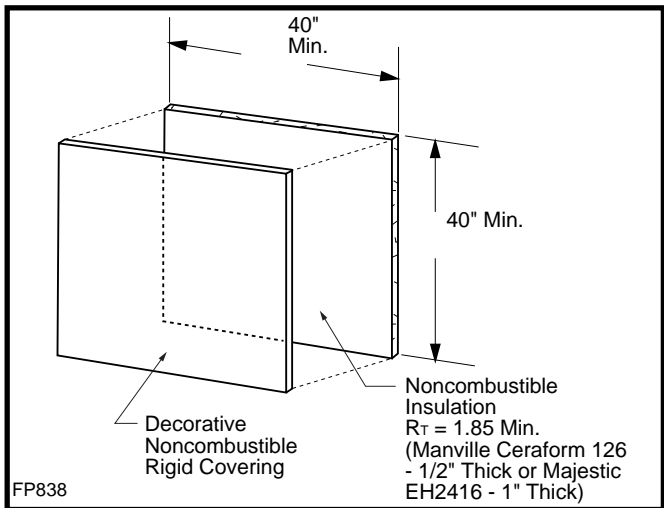
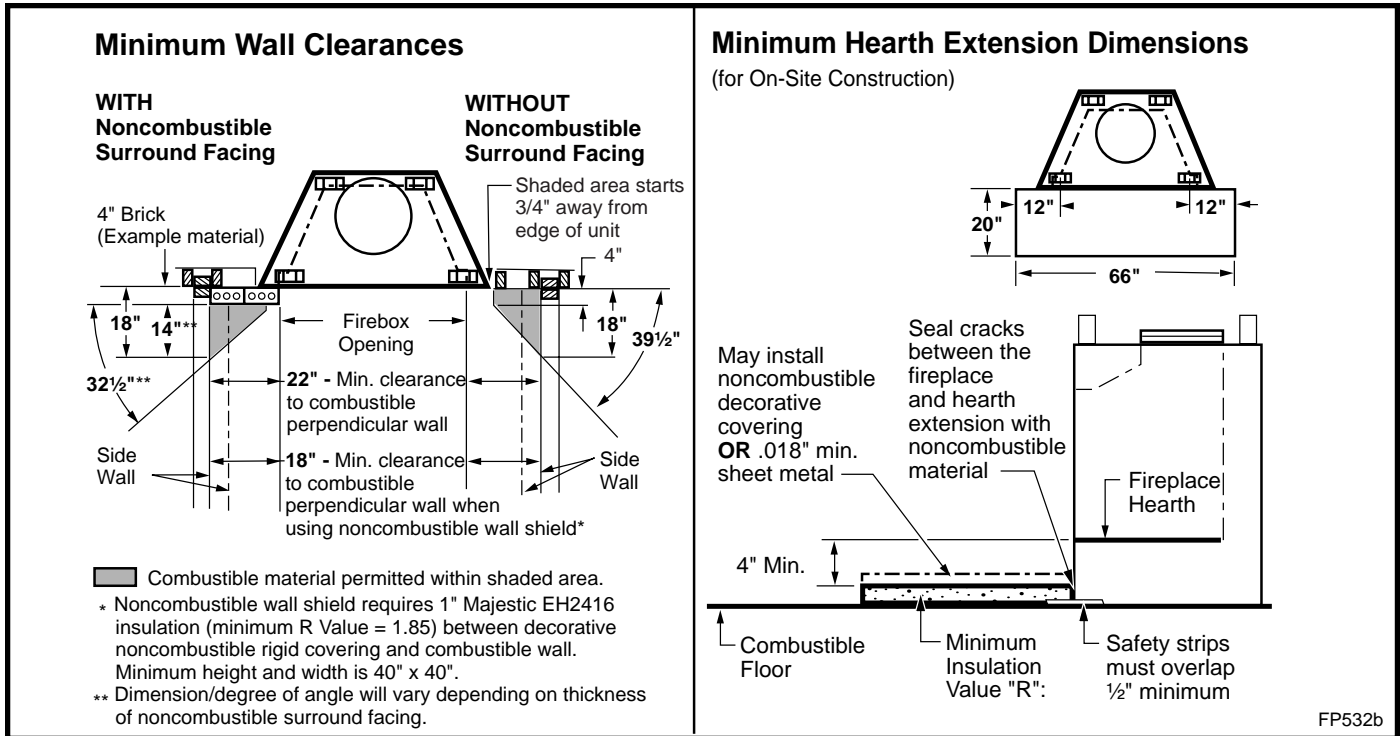

Fig. 22 Noncombustible wall shield dimensions.
Fig. 24 Combustible side wall protection and hearth extension dimensions.
Adjacent combustible side walls that are within dimensions shown in Figure 24 of fireplace opening must be protected with Vermont Castings, Majestic Products Wall Shield Model SP40 or a specifically built wall shield described in Figure 22.
The special wall shield design described in Figure 22 is an alternate method of adding protection to side walls and can be used in place of the SP40 with the same wall clearances specified for the SP40.  $R_t$  must = 1.85 minimum.
A hearth extension is required to protect a combustible floor in front of the fireplace. See Figure 24 for minimum dimensions and mounting detail.
The hearth extension described in Figure 24 must be a durable noncombustible material with a minimum (total) Rt value of 1.09; see Figure 25 for examples. The overall height (above a combustible floor), depth and width must be as indicated, with the extension centered to the fireplace opening.
The top of insulation must be covered with a non-combustible decorative covering or a piece of .018" minimum sheet metal, to protect hearth extension material. (Fig. 24)
Secure the hearth extension to the floor to prevent shifting, using trim molding or other similar means at three (3) outer edges. Seal crack between the fireplace hearth and hearth extension with a noncombustible material. (Figs. 24, and 26 - 28)
**WARNING: HEARTH EXTENSION MUST BE INSTALLED IN ACCORDANCE WITH FIGURE 24.**